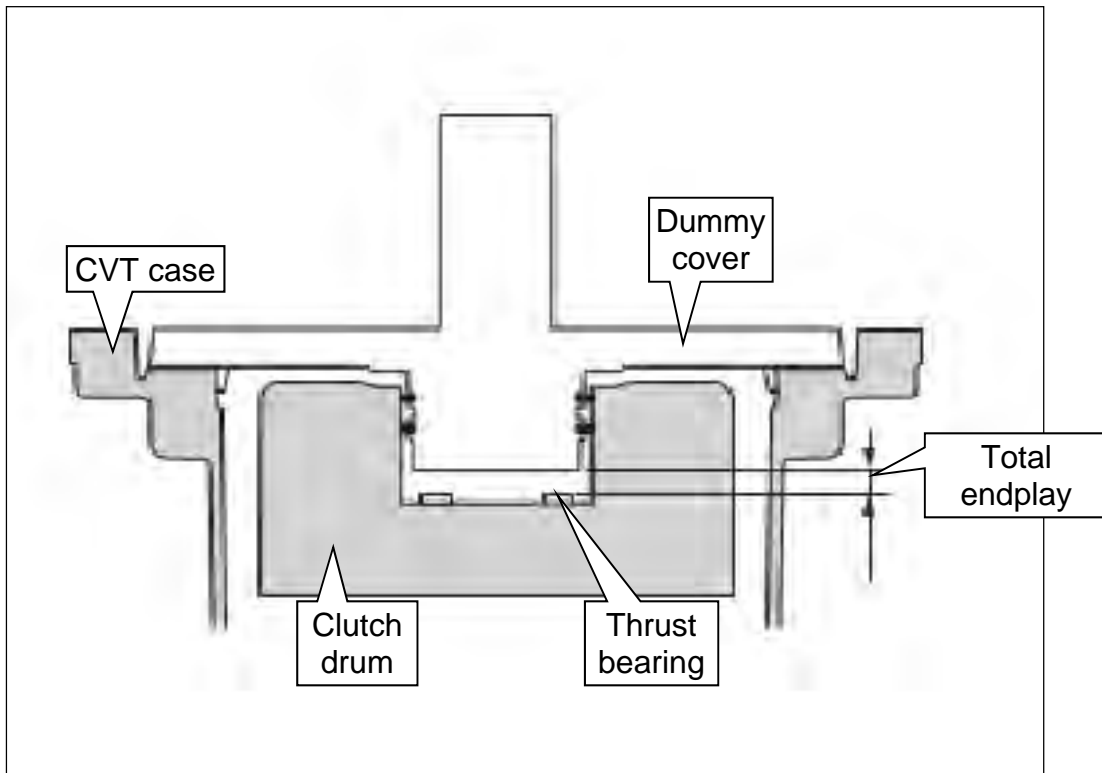

Figure 130
**IMPORTANT:** The clutch total endplay (Figure 130) must always be adjusted when a new sub-assembly is installed.